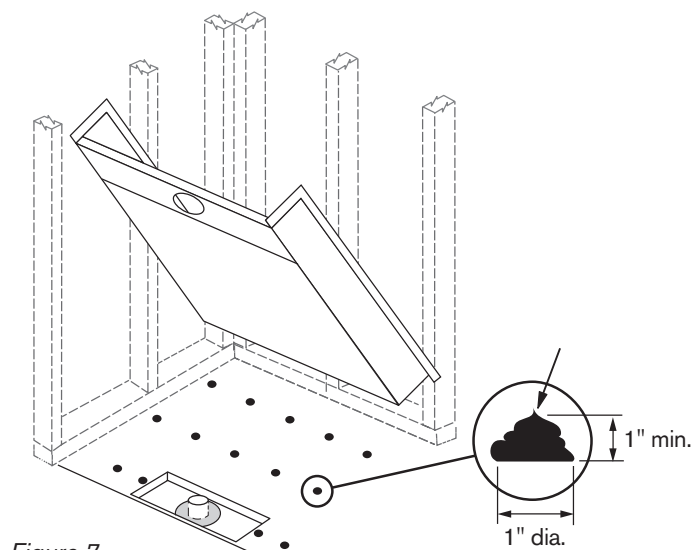

Figure 7
- 13 Place pan in pocket and prop it up while you apply the epoxy. Place thick (1" high, minimum) dollops following the pattern you marked on the floor. The epoxy will fill the void to both secure the pan and help support it. (Figure 7)